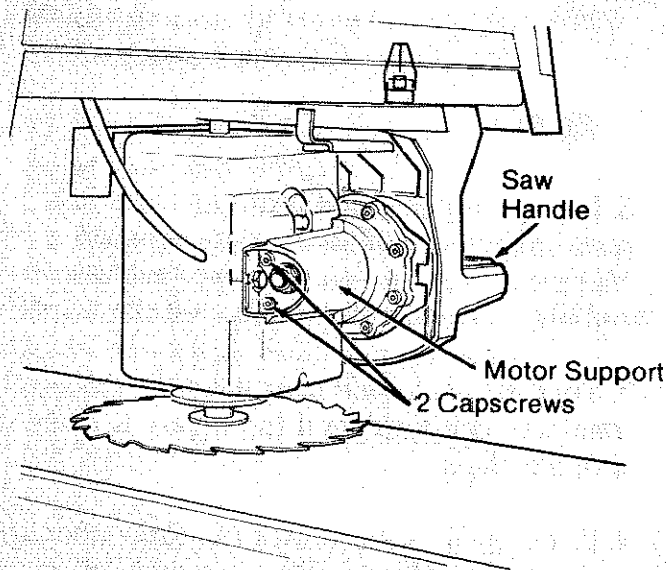

Fig. 71
10. Loosen the two screws on the back of the *motor support* using a 3/16 inch hex-L wrench and pliers if necessary. (Figure 71)